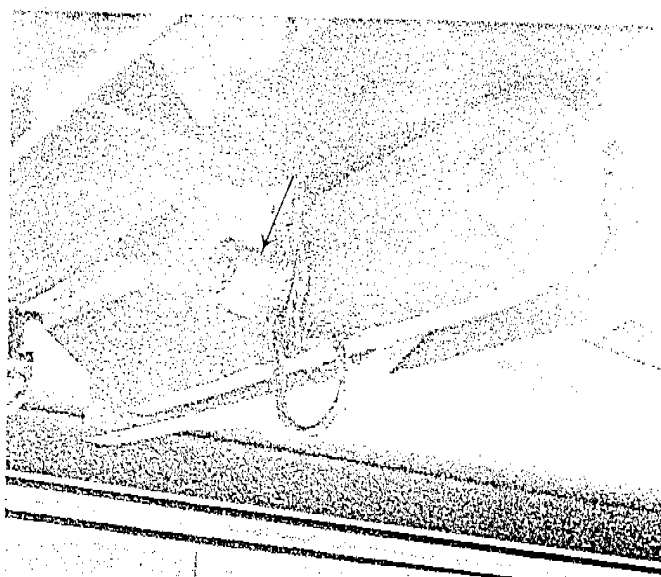

Fig. 33
- c. Once the wing tip is lowered, replace the locking pin in the same ears on the center hinge lock. *Snap Key in Place.* (Fig. 33)